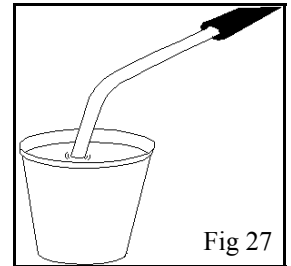

Fig 27
2. Immerse dispense tubes and holder in **HAND HOT** water to remove any external deposits and brush clean. Fig 27.